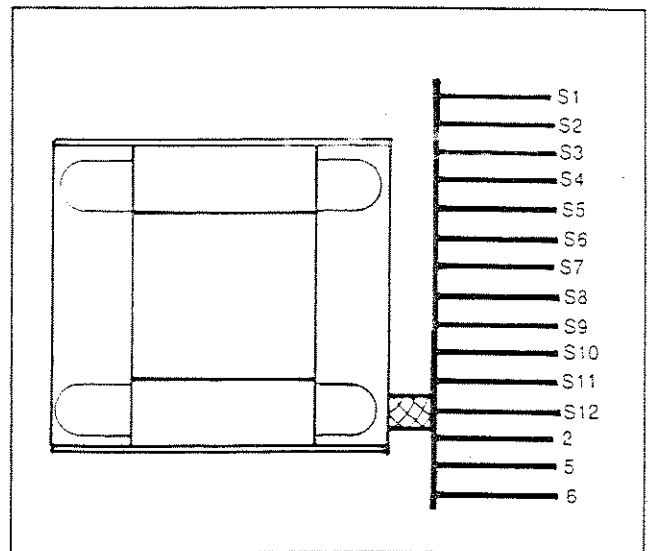
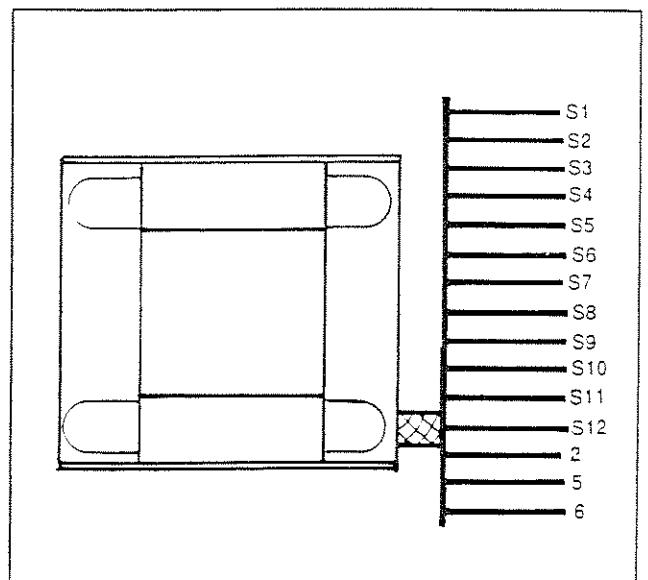

Figure 4. Stator on 120/240 Volts, 3-Phase Units
Figure 5. Stator on 120/208 Volts, 3-Phase Units
Units with liquid cooled engine and having a 3-phase stator may be rated either (a) 120/240 volts, or (b) 120/208 volts. The stator configuration for units rated 120/240 volts, 3-phase is illustrated in Figure 4; units rated 120/208 volts, 3-phase are shown in Figure 5. These 3-phase stators consist of six (6) coils, with each coil having two (2) leads, so that twelve (12) stator AC power leads are brought out of the stator assembly. These twelve stator AC power leads are identified as leads S1 through S12.